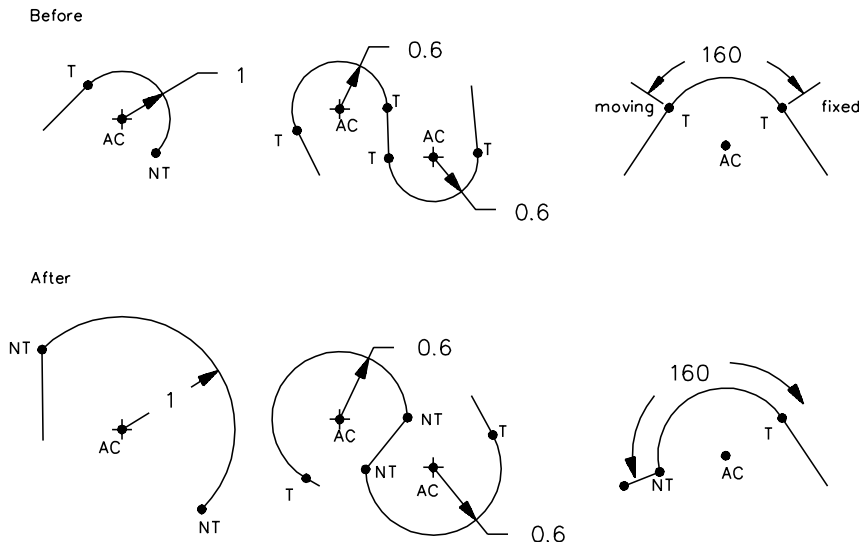

Fig. 5-19 LOST TANGENCY
- If both sides are tangent, and the arc is angularly dimensioned, the degree of arc overrides tangency. (See Figure 5-19.)